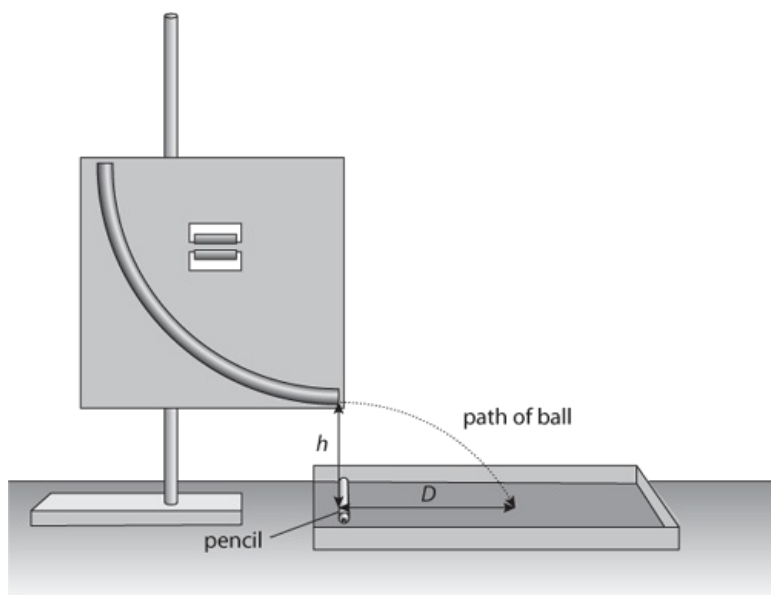

Figure 3.5: As Figure 3.4, but with path of ball shown.
- 2 Measure the height h of the tube above the sand, as shown in Figure 3.5, and record it in Table 3.3 in the Results section.
- 4 Measure the distance D from the ball landing position to the pencil, as shown in Figure 3.5, and record it in Table 3.3.